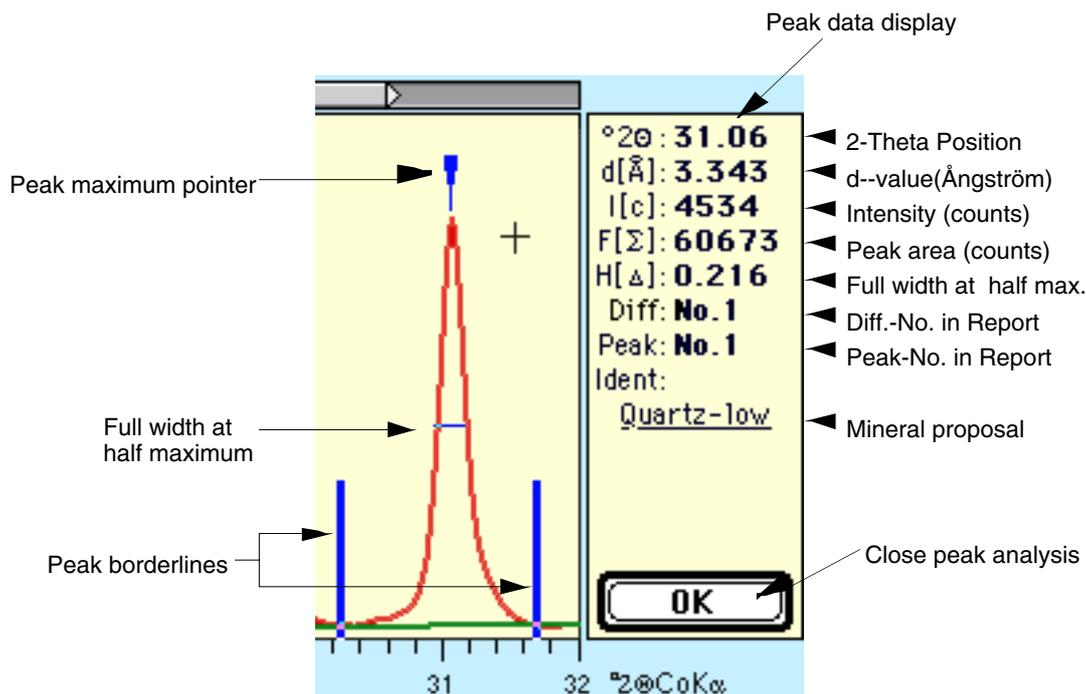

Fig. 3: Peak analysis
**Double-clicking** a peak will immediately cause a peak analysis. Alternatively, the user can move from peak to peak by **ALT-click**. After a short time the following data will be shown in the peak data display in the top right corner (Fig. 3):
The **peak area** is computed by integrating = summing the counts above the background within the interval determined by **peak borderlines** (see Fig. 3).